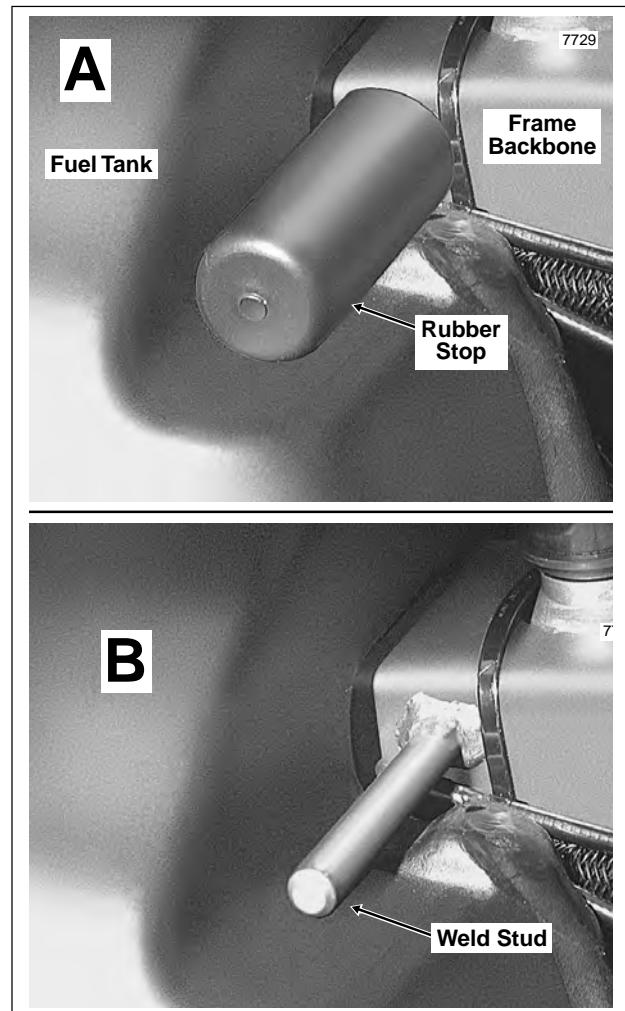

Figure 4-3. Remove Fuel Tank
12. Moving to front of vehicle, pry rubber stops from weld studs on each side of frame backbone. See **A** and **B** of Figure 4-3.
2. Standing at front of vehicle, push rubber stops onto weld studs on each side of frame backbone. Using a rubber mallet, tap stops until fully seated. See A and B of Figure 4-3.